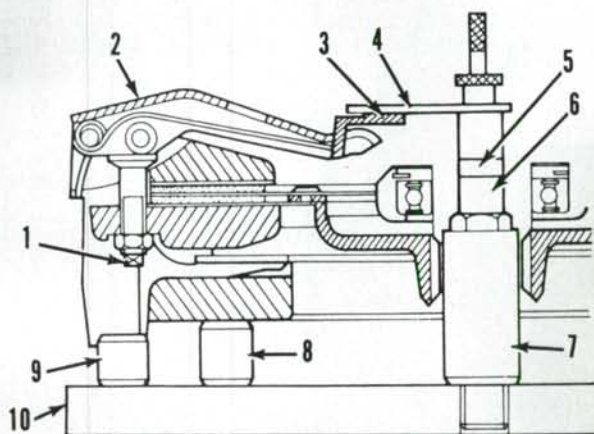

Fig. 170—Adjust height of transmission levers using tools shown. Extra spacer DB1248 (5) is used only on 1594 and 1690 models.
To set height of transmission release levers, first install center post adapter DB 8832/1 (7—Fig. 170) and release lever actuator in base plate. Actuate transmission release levers about a dozen times to make sure all parts are properly seated. Remove actuator and install center post 981845 into adapter. Install Code 4 spacer (6), extra spacer DB 1248 (5) on 1594 and 1690 models and setting gage (4). Adjust each adjuster bolt (1) until setting gage just contacts thrust plate (3) all the way around. Remove gage and spacers, install lever actuator and actuate release levers several times. Reinstall spacers and gage and recheck lever adjustment. Readjust if necessary. Remove gage and spacers.